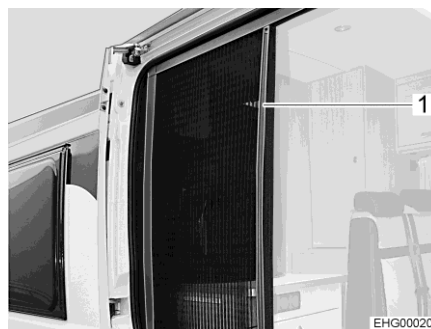

Fig. 14 Insect screen
- Closing:** ■ Pull out the insect screen completely by the bar (Fig. 14,1).
- Opening:** ■ Push the insect screen into its initial position by the bar (Fig. 14,1).